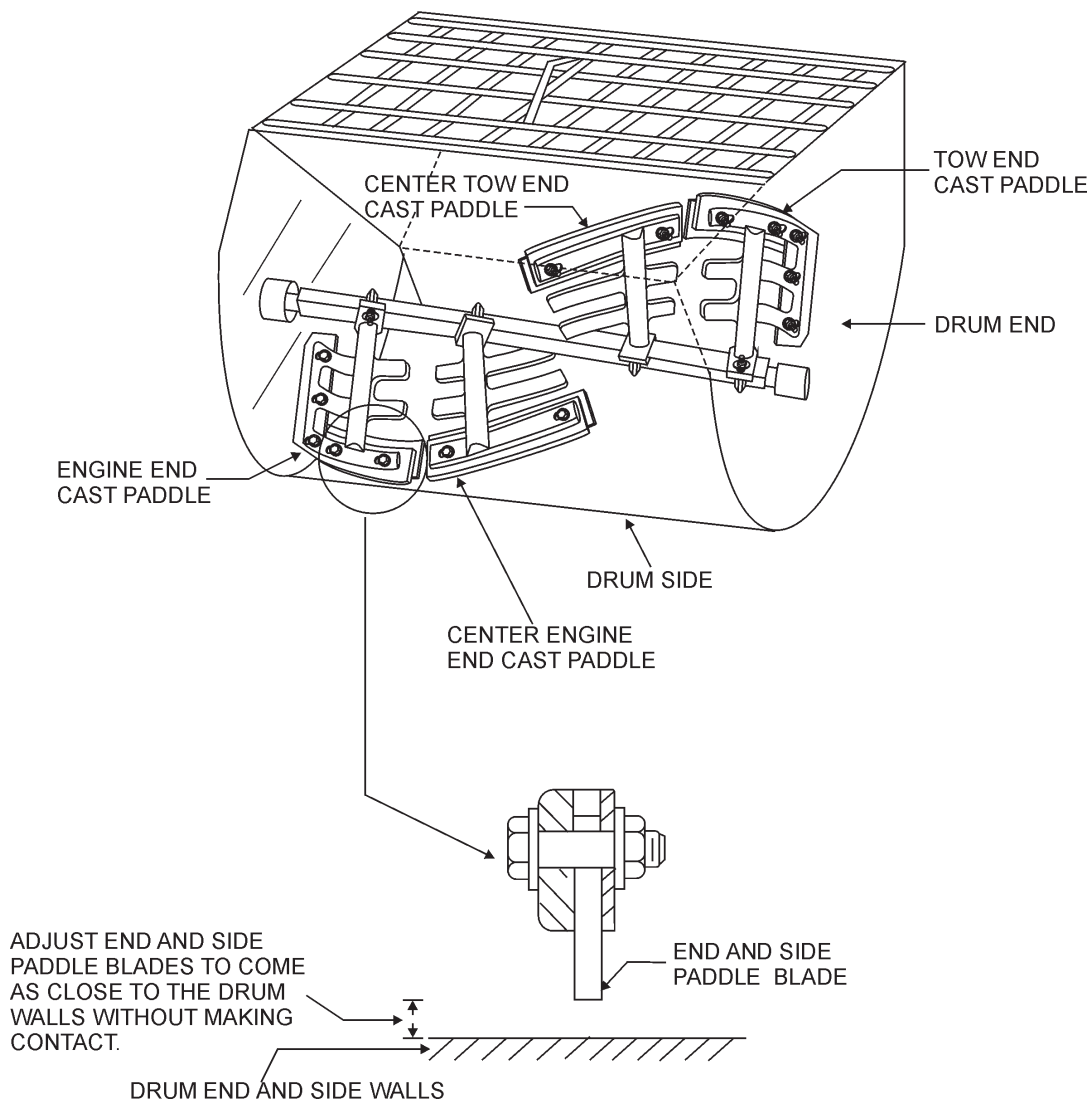
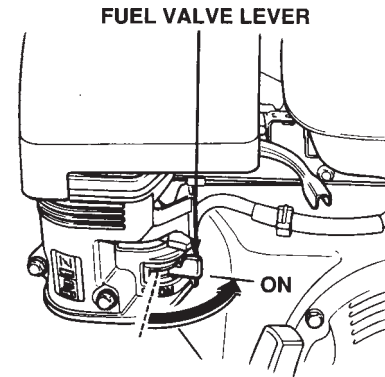

Figure 3. Paddle Blade Adjustment, Polyethylene Drum
Figure 4. Fuel Shut-OFF Lever
Paddle blade adjustment is dependent on drum type, **polyethylene** or **steel**. Figure 3 illustrates the paddle blade adjustment when using a polyethylene drum. Figure 4 illustrates the paddle blade adjustment when using a steel drum. When using a polyethylene drum the paddle blade should come as close as possible to the drum end and side walls without making contact. If material builds up on the drum, use a rubber mallet to dislodge the material without adverse effect to the drum.
1. Move the fuel shut-off lever (Figure 4) to the **ON** position.